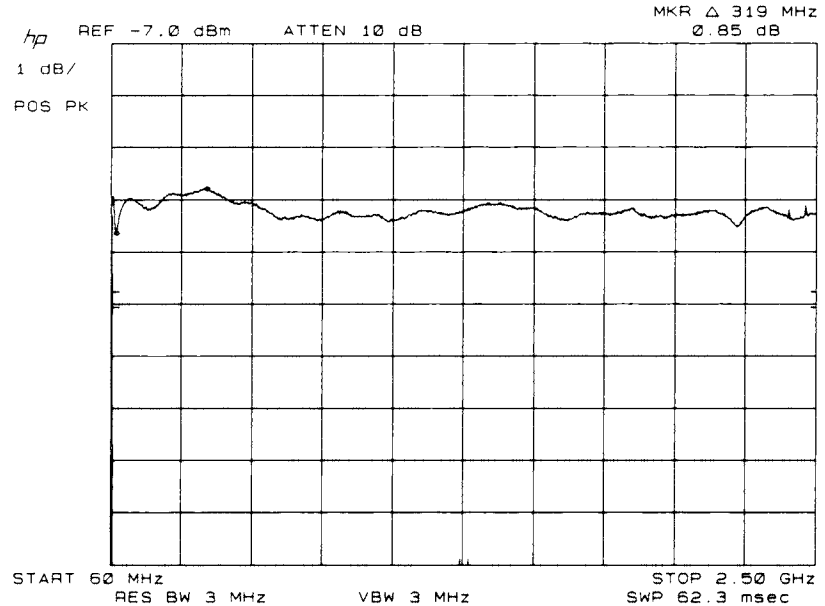

Figure 2-20.
47. On the synthesized sweeper, press **SWEEP (SINGLE)** and wait for a sweep to complete (150 seconds) and the **SWEEP LED** to turn off. As the synthesized sweeper tunes from 60 MHz to 2.5 GHz, the spectrum analyzer frequency response is displayed as **TRACE B** (**TRACE A** displays the current input signal). When the sweep has completed, the display should appear as shown in Figure 2-20.